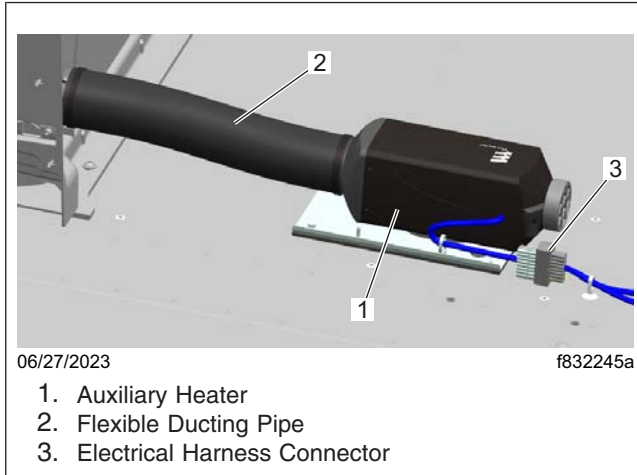

Fig. 5, Auxiliary Heater Electrical Harness Location
8. Locate the auxiliary heater electrical harness shown in Fig. 5. Cut the tie straps, and remove the coverings. Ensure the electrical harness is prepared for installation.